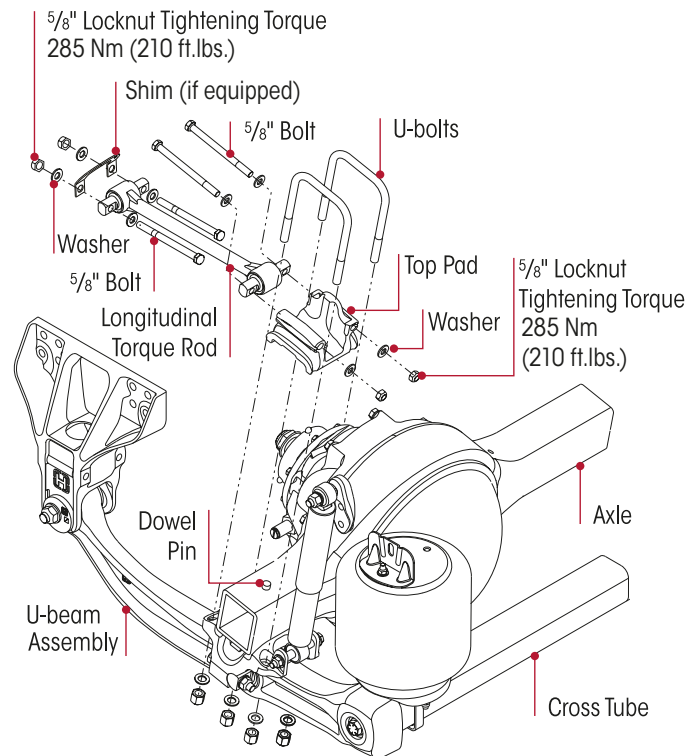
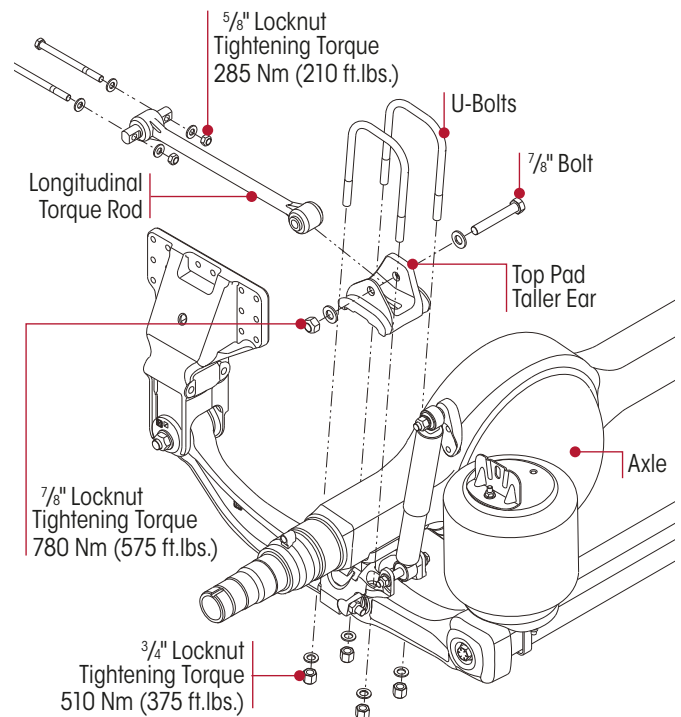

Figure 107: Shim & Spacer Locations & Discard Fasteners (Standard)
Figure 108: Shim & Spacer Locations & Discard Fasteners (Alternate)
6. Remove and discard the fasteners from the longitudinal torque rod to top pad joint. Note the position of any shims or spacers (if equipped). Refer Figure 107 and Figure 108.